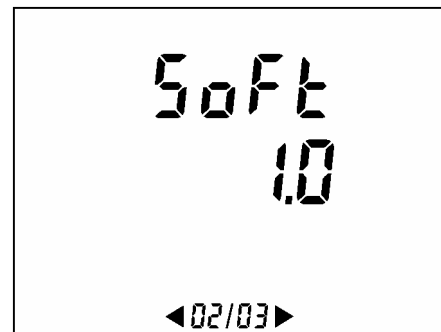

Figure 61: Software version number of embedded software (page 2/3).
- The appliance software version ($Soft$ = *Software version*) (Figure 61).